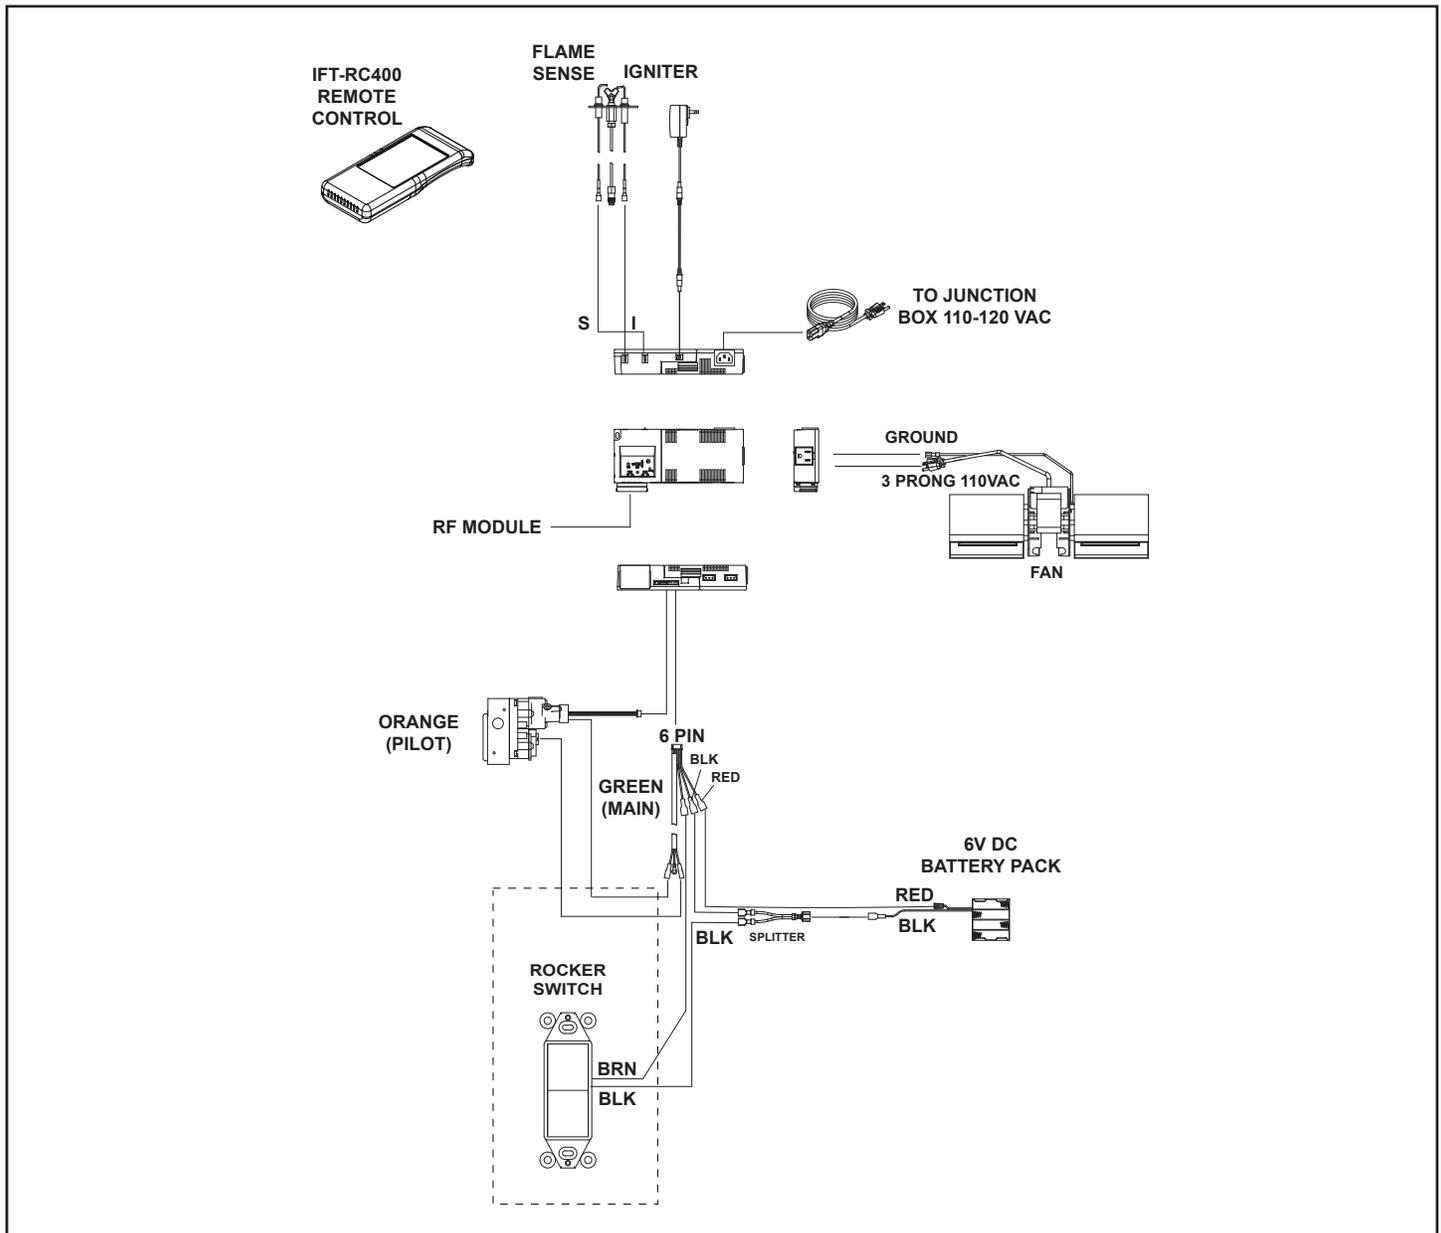

Figure 3.26 - RADVT-IFT Wiring Diagram
- Refer to Figure 3.26, IFT Wiring Diagram.